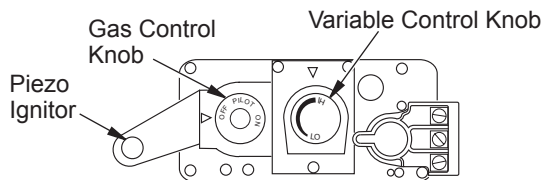

Figure 44 - Control Valve
7. Turn gas control knob counterclockwise ↶ to "PILOT". (see Figure 44)
8. Push in gas control knob all the way and hold. Immediately light the pilot by repeatedly depressing the piezo spark ignitor until a flame appears. Continue to hold for about one (1) minute after the pilot is lit. Release gas control knob and it will pop back. Pilot should remain lit. If it goes out, repeat steps 5 through 8.